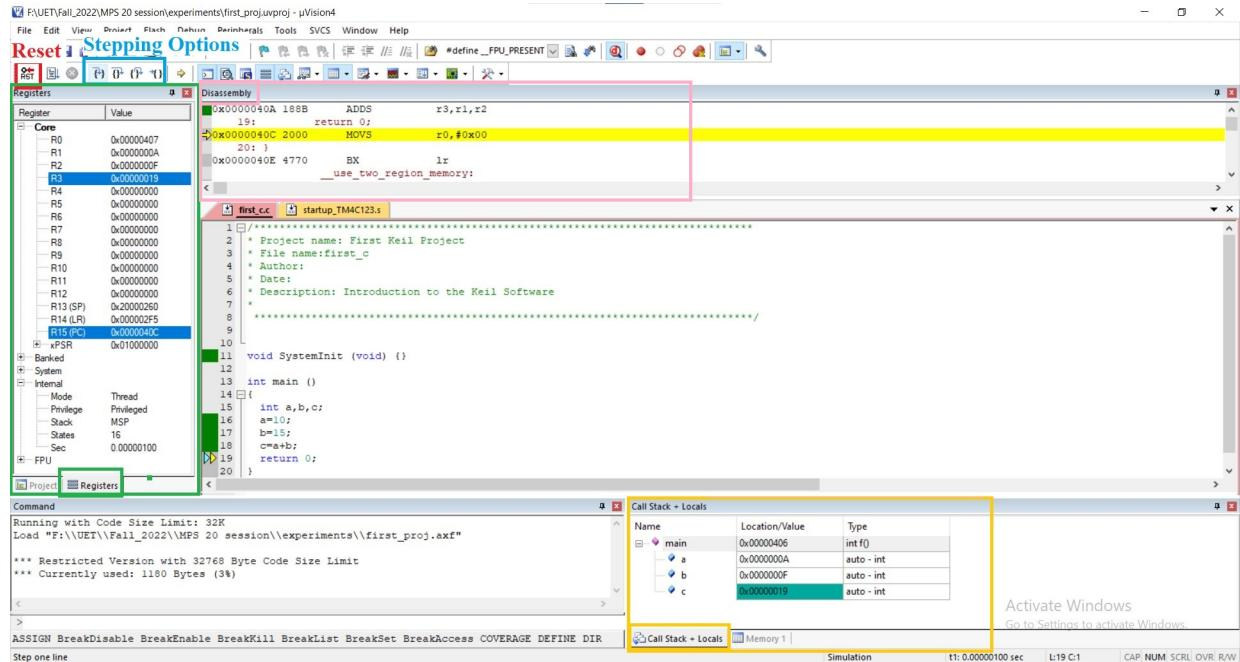

Figure 1.16: Debug the code using different stepping options by observing values in Register window and CallStack + Locals window
9. In Debug mode, step wise execution is used for viewing results of the code. Values in *Registers* window and *Call Stack + Locals* window will provide insight into the execution of the code. Assembly of the code is also available in the *Disassembly* window (Figure 1.16).